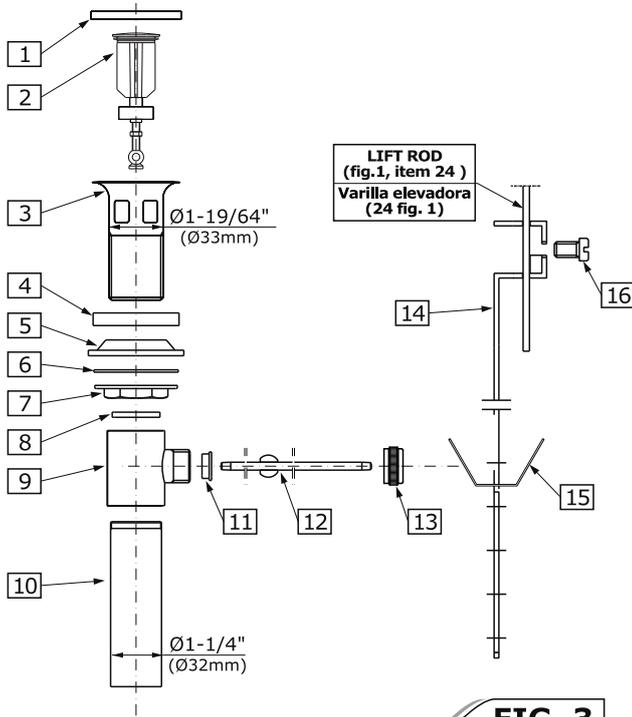

FIG. 3
- ➔ Dismantle the drain assembly to the parts shown on **fig. 3**.